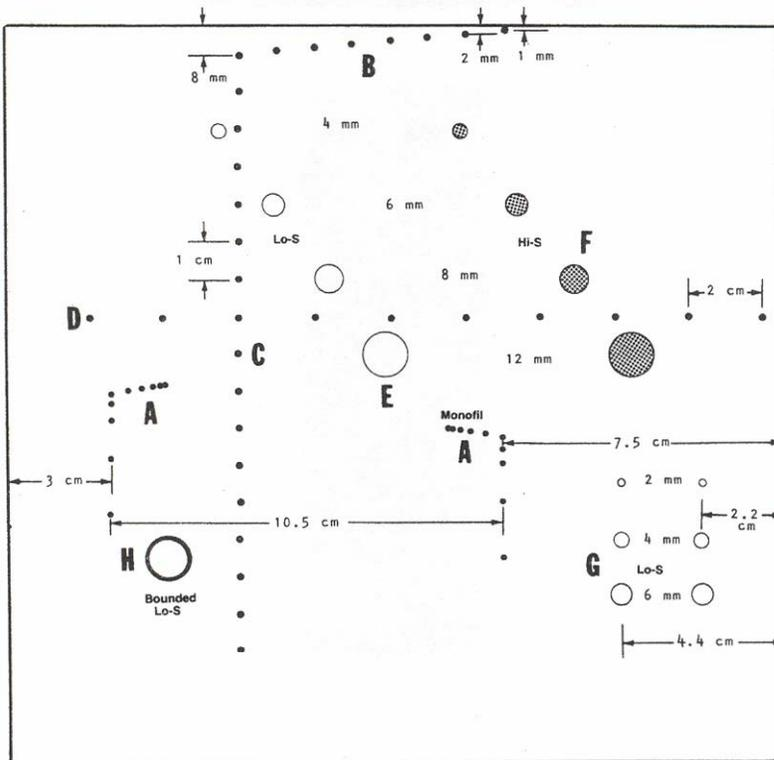

Figure 1-1. Internal Targets
The phantoms have a series of monofilament nylon targets, 0.240 mm (0.01 inch) D. Two sets of targets form resolution group patterns (A, Figure 1-1). The first is 3 cm from one side of the phantom, 18 cm from the other side. The second group is 13.5 cm from the first side, 7.5 cm from the other. Thus, resolution measurements can be made at any of four depths.
- A. The resolution groups (A, Figure 1-1) have targets with center-to-center spacings of 5 mm, 4 mm, 3 mm, 2 mm and 1 mm for axial resolution tests. Each group has a second row of targets, nearly at right angles, to give simultaneous transverse resolution information. Spacings are 3 mm, 5 mm, 10 mm, and 15 mm. The axial rows are 10° from perfectly parallel and perpendicular to the phantom's outside surfaces to decrease acoustic shadowing of some of the monofilament targets by others. The distances from the phantom's surfaces are close to the focal zone distances of typical short, medium and long-focus transducers.
- B. When scanned from the top, eight rods (B, Figure 1-1) are spaced at increasing distances within the filling medium, starting at a distance 1 mm from the edge and increasing by 1 mm for each succeeding rod. This group is used for the rapid measurement of the transducer dead-zone or "ring-down" distance.
- C. One group of parallel rods, 1 cm apart in a vertical plane, (C, Figure 1-1) is scanned from the top for depth calibration, measurement of gain as a function of depth, and measurement of vertical linearity. This group also gives an indication of the acoustic beam shape with depth since the line target is generally displayed as a horizontal smear.
- D. One group of horizontal parallel rods, 2 cm apart, is used for horizontal calibration and linearity measurements (D, Figure 1-1).
- E. A diagonal row of four (Lo-S) simulated cysts (E, Figure 1-1) has cylinders of gel similar to the background filling material of the phantom. The "cysts" (4, 6, 8 and 12 mm D.) have no scattering centers (hence "Low-scatter" or "Lo-S") and are "transparent" to the ultrasound beam.
- F. Another row of four cysts (F, Figure 1-1), parallel to the first and of the same size, is filled with gel having more scattering centers than the background material. It is labeled "Hi-S" (high scatter) and simulates solid lesions similar to tumors.
- G. Six more "Lo-S" cysts are in two columns in the low right corner (G, Figure 1-1). Each column contains a 2 mm, 4 mm and 6 mm cyst. One column is at 2.2 cm and the other at 4.4 cm from the side-scanning surface. These are used with short-focal-length transducers and scanners designed for close viewing.
- H. One cyst-like object (Bounded Lo-S) (H, Figure 1-1) is encased in a highly reflecting plastic skin. It represents normally fluid-filled organs such as the larger blood vessels.